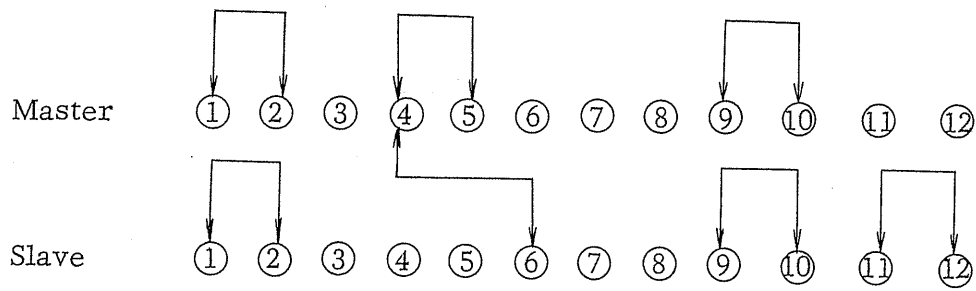

Fig. 8
- (1) After connecting the master and slave equipments as illustrated in Figs. 8 and 9, turn the output voltage control knob of the